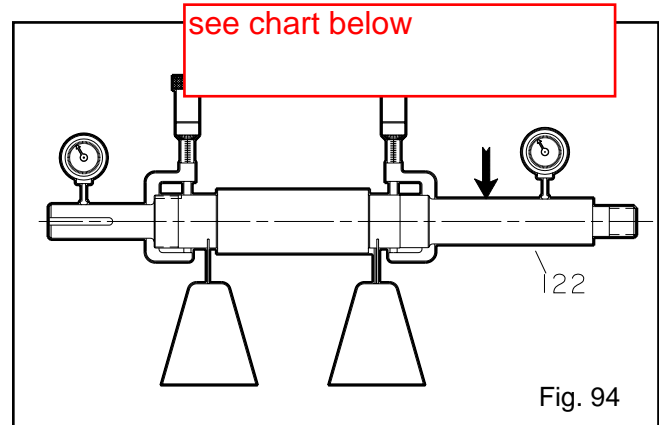

Fig. 94
1. Check bearing fits. If any are outside the tolerance in Table 8, replace the shaft (122) (Fig. 94).